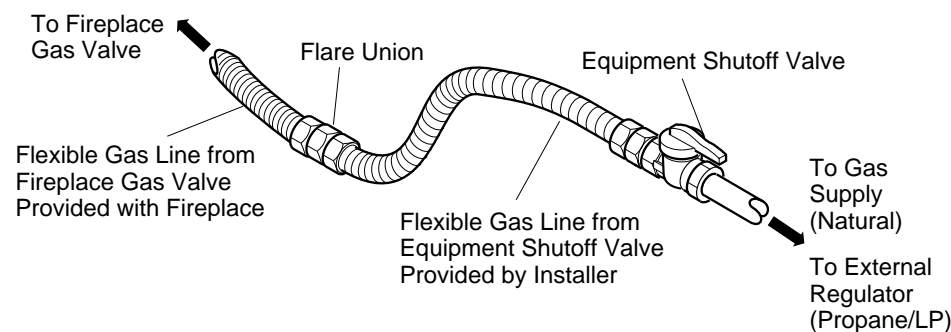

Figure 41 - Attaching Flexible Gas Lines Together
3. Attach a 45° flare union gas connector to flexible gas line from gas supply (see Figure 41). Connect flare union to flexible gas line attached to gas regulator of fireplace (see Figure 41).